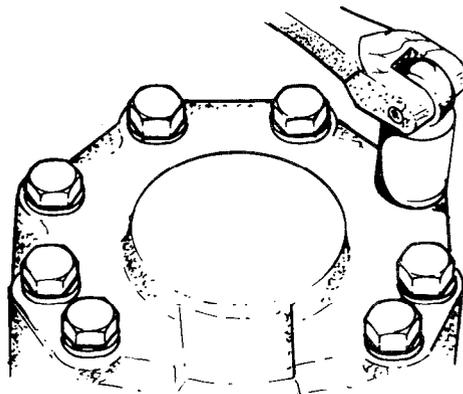

Figure 263 — Pinion Gear Cover — Removal
- c. Remove the eight bolts and washers securing the pinion gear cover to the housing (see Fig. 263).